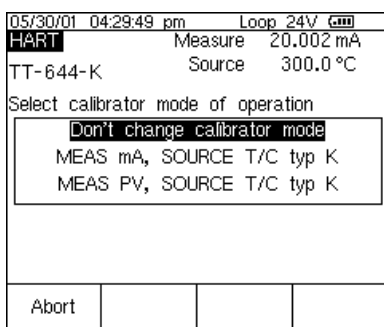

Figure 20
2. Press the **ENTER** key again and you are prompted to select the 744 configuration (Figure 20). Move the cursor to **MEAS mA, SOURCE T/C typ K**, and press **ENTER**. (If you were verifying the digital PV instead of the mA output, i.e., the transmitter has a non-zero HART poll address, you would select **MEAS PV, SOURCE T/C typ K** instead.)